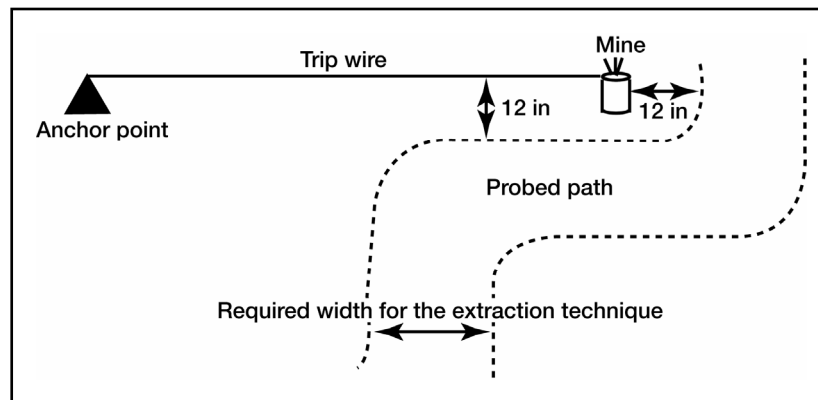

Figure 052-192-1042-6. Marking a trip wire
- c. Mark the line of the trip wire along the ground surface 12 inches before the trip wire (figure 052-192-1042-6).